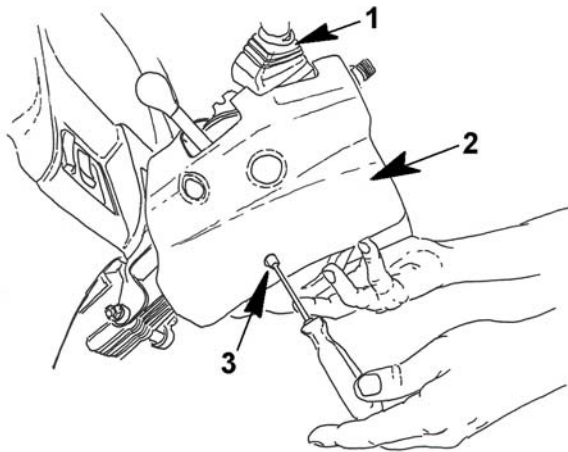

Figure 68 Side Cover Removal
3. Locate the steering column cover (Figure 68, Item 3) fastener openings on the underside of steering wheel covers.
4. Locate steering column side cover mounting screws (Figure 68, Item 3) and remove. Remove the steering columns side covers (Figure 105, Item 1).